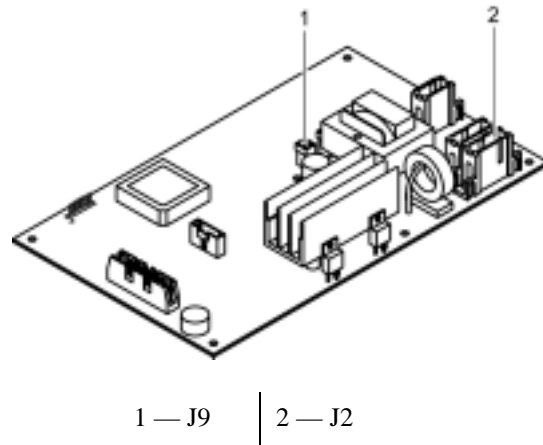

Figure 29: Door Assembly Cable Connections
6. Disconnect door assembly cables from the chassis assembly. See Figure 29.